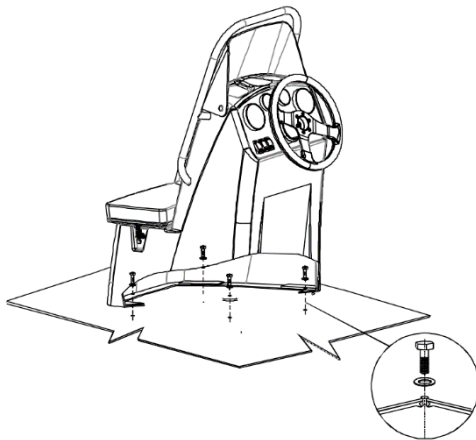

Fig. 6. Installation of steering console CL-14.
- Fix steering console to the deck by means of bolts M8*25 and toothed lock washer (see Fig.6).